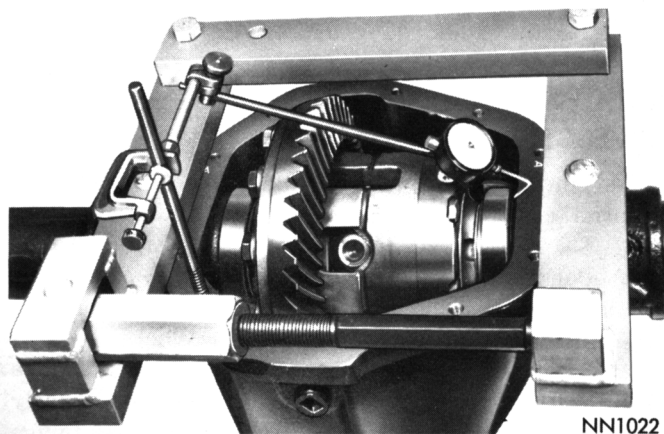

Fig. 4—Spreading Rear Axle Housing
(8) Loosen and remove the differential bearing caps and locate spreader Tool W-129 with tool dowel pins seated in locating holes of axle housing. Turn tool screw finger tight at this time.
(9) Install pilot stud on left side of axle housing. Attach dial indicator and load indicator stem slightly against opposite side of axle housing (Fig. 4).
(10) Tighten spreader tool nut sufficiently to obtain .015 inch movement of dial indicator to permit removal of differential case and ring gear assembly.